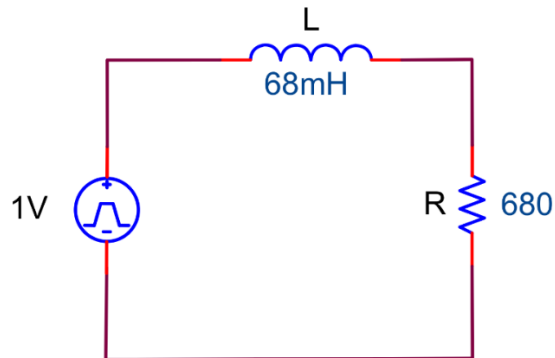

Figure 10.12
5. Construct the circuit of Figure 10.12. Adjust the frequency of the function generator for an to obtain a 5τ display. Compare this value to the calculated time constant. Be sure to include the effects of R_{int} and R_{dc} into your calculations.
3. Simulate Figure 10.12 and obtain the same output as your oscilloscope.